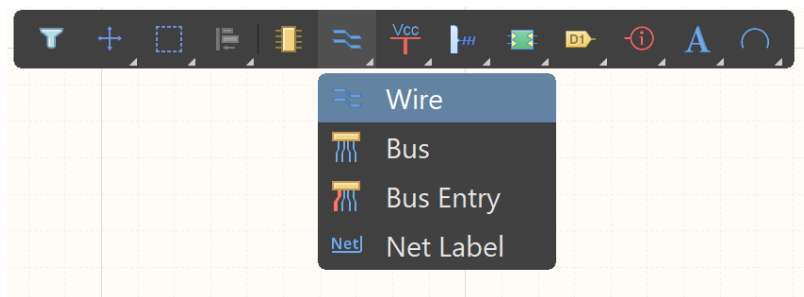

Figure 12: Path to Select Wires
25. Right click on the wire icon on the toolbar and select “Wire” as shown in Figure 12.